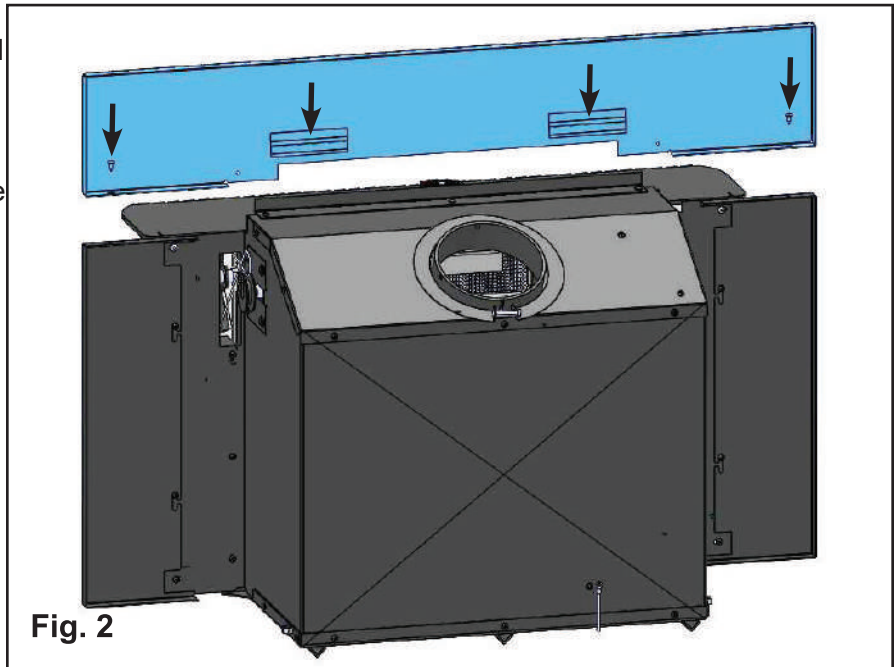

Fig. 2
6. Once the flue connection has been made and the appliance properly positioned, install the upper shroud panel by sliding it downward onto the appliance such that the tabs on the back of the shroud panel slide over the receiving flange on the top of the appliance. Complete the install by fastening the upper shroud panel to both the left and right side panels. (Fig. 2)